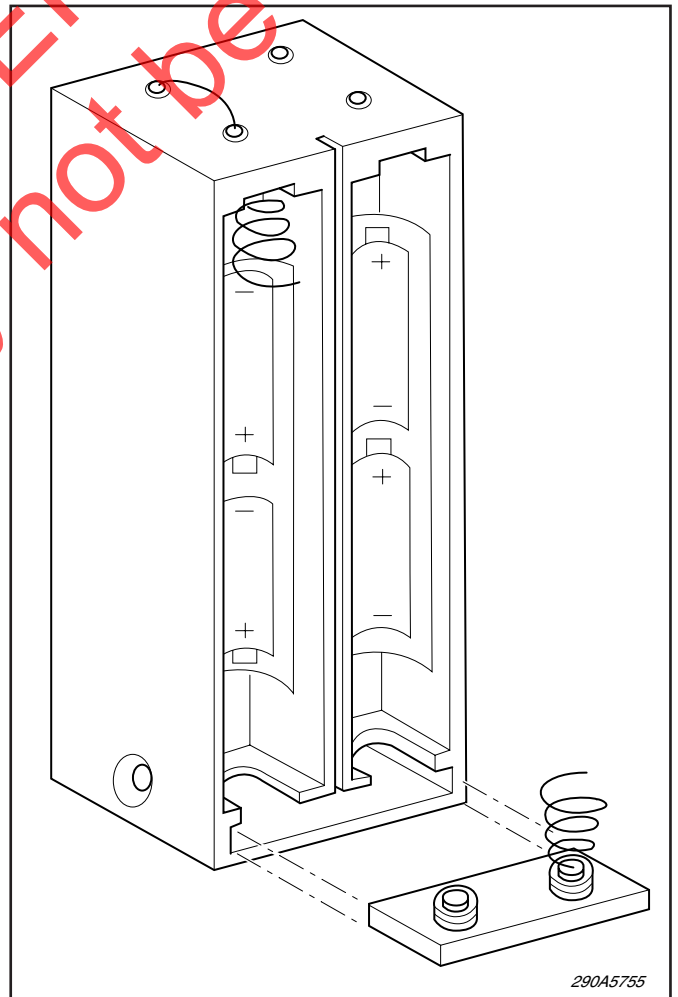

Figure 1.
- D. All batteries should be placed in position with the small battery tip pointing away from the springs at the top and bottom of the cartridge (see figure 1).